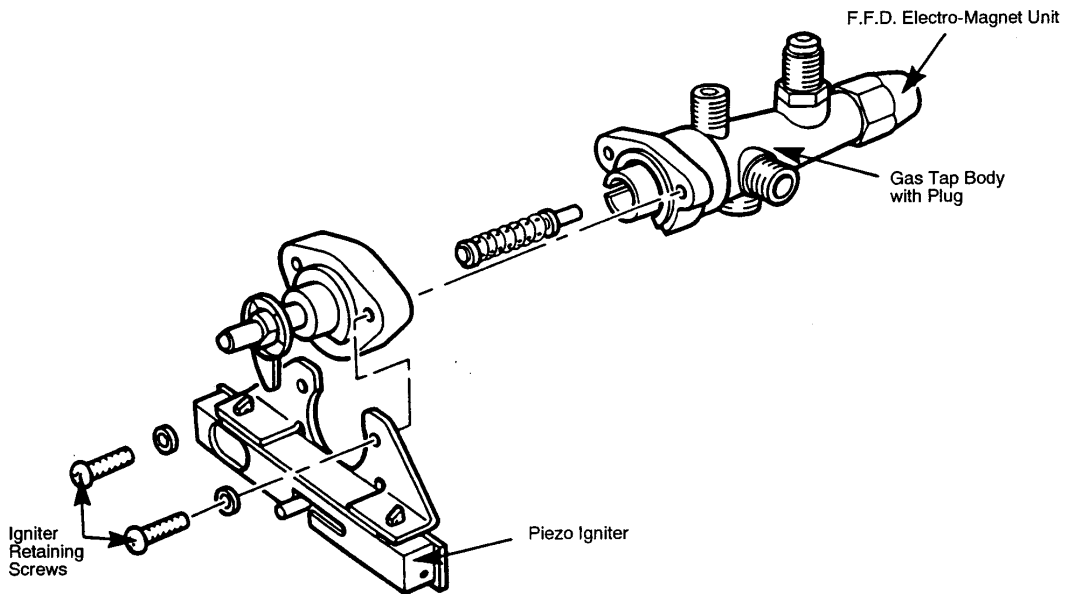

Fig. 13 Gas Control Tap & Flame Failure Device
- (a) **Greasing the tap plug** (Fig.13). Pull off the plastic cap and then the spark electrode lead from the piezo unit and undo the two set screws and washers securing the niting plate to the tap body.
PIEZO UNIT (Fig. 13)